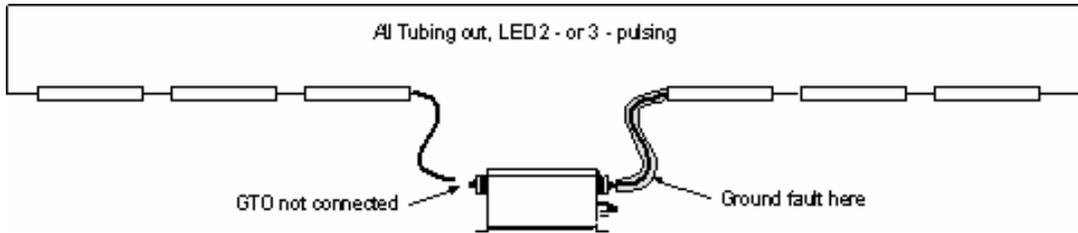

Fig. 1
- Mid-point of tubing deliberately connected to sign frame, flashing, ground, etc. (Usually happens when a “.G-2” type transformer is used to replace a failed transformer in a midpoint wired system – re-wire tubing into a “virtual midpoint” configuration – if both GTO wires were connected, Fig. 1 would represent a midpoint wired system).